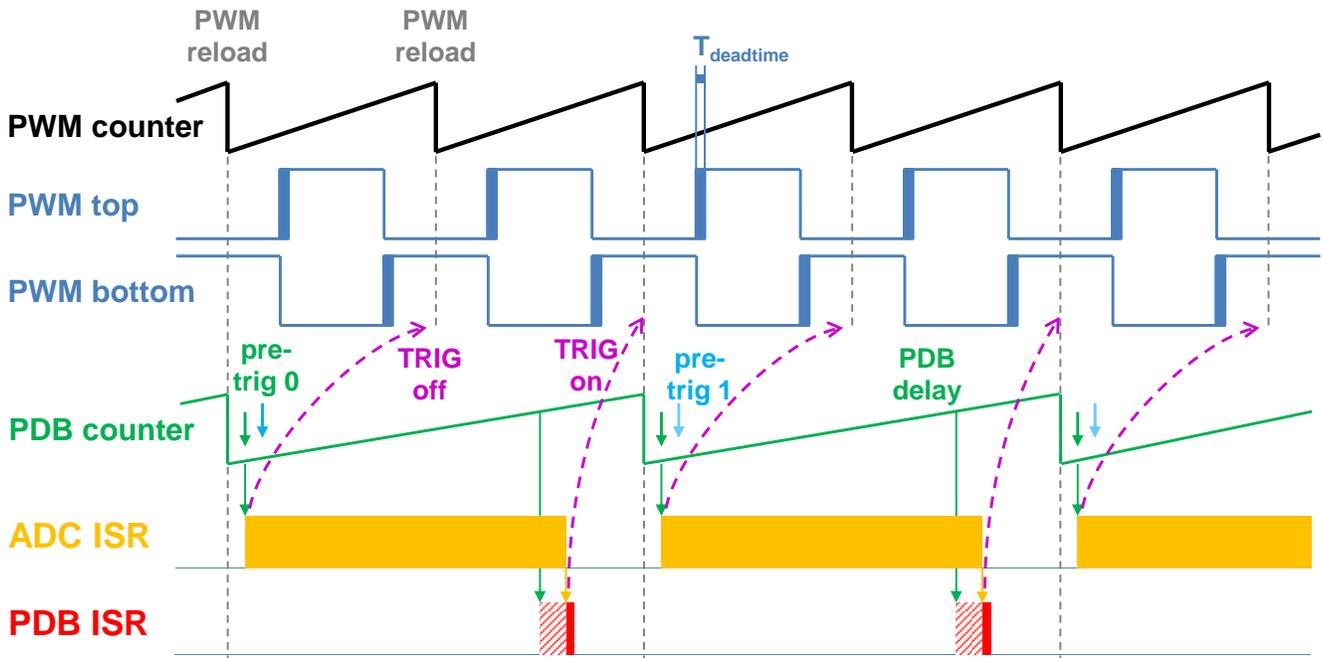

Figure 8. Hardware timing and synchronization on KV11Z and KV10Z
- The PDB Delay interrupt is enabled. This interrupt is generated when the PDB\_IDLY is reached. This interrupt enables the FTM\_TRIG (see Figure 8).